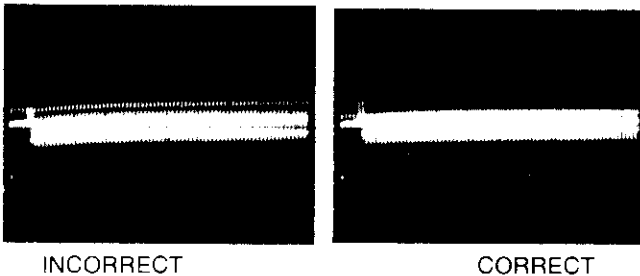

Fig. 23—Chroma Null
4. Adjust R3329 for minimum p-p signal see Figs. 23 & 28.